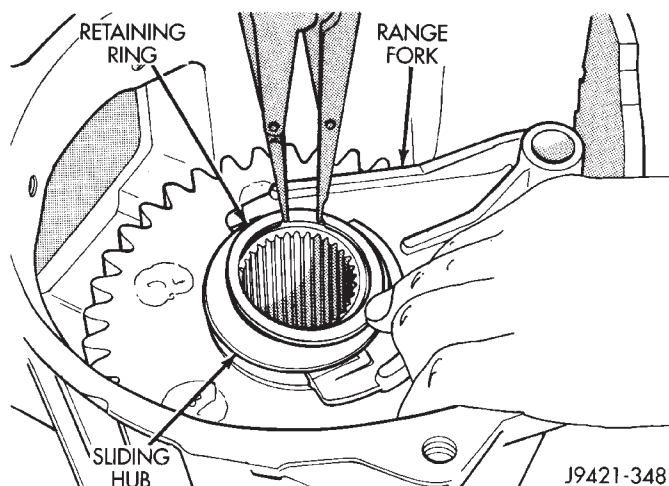

Fig. 81 Sliding Hub Retaining Ring Installation
(5) Install sliding hub and retaining ring (Fig. 81). Be sure ring is fully seated before proceeding.